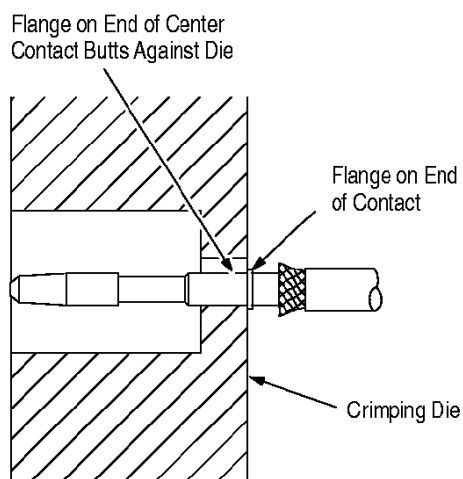

Figure 3
**NOTE** Make sure that the flange on the end of the center contact butts against the crimping die. See Figure 3.